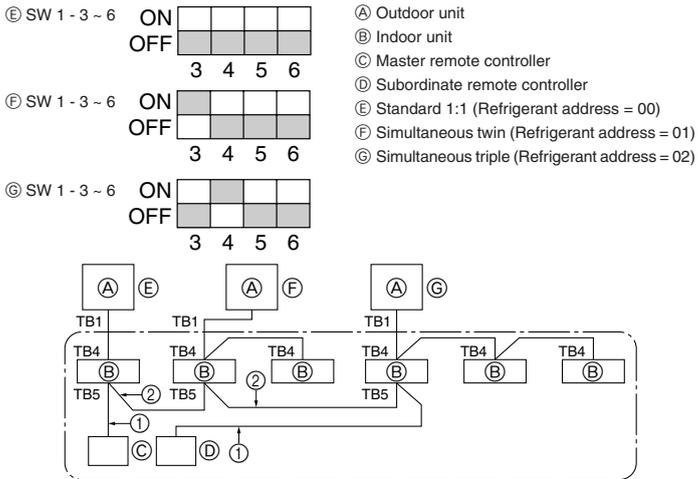

Fig. 10-1
- ① Before collecting the refrigerant, first make sure that all of the SW5 DIP switches for function changes on the control board of the outdoor unit are set to OFF. If all of the SW5 switches are not set to OFF, record the settings and then set all of the switches to OFF. Start collecting the refrigerant. After moving the unit to a new location and completing the test run, set the SW5 switches to the previously recorded settings.
- ② Supply power (circuit breaker).
- ③ After the liquid stop valve is closed, set the SWP switch on the control board of the outdoor unit to ON. The compressor (outdoor unit) and ventilators (indoor and outdoor units) start operating and refrigerant collecting operation begins. LED1 and LED2 on the control board of the outdoor unit are lit.
10. System control (Fig. 10-1)